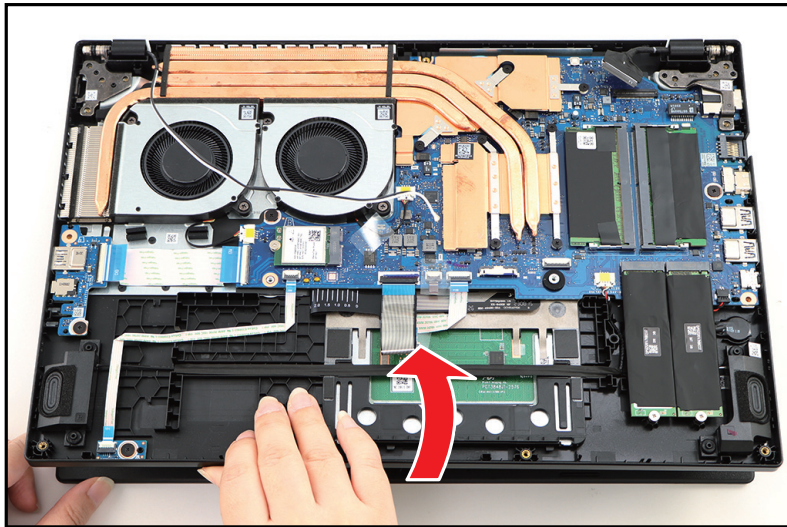

Figure 1-28. LCD Module Removal
5. Lift the top assembly until it is fully open (Figure 1-28).